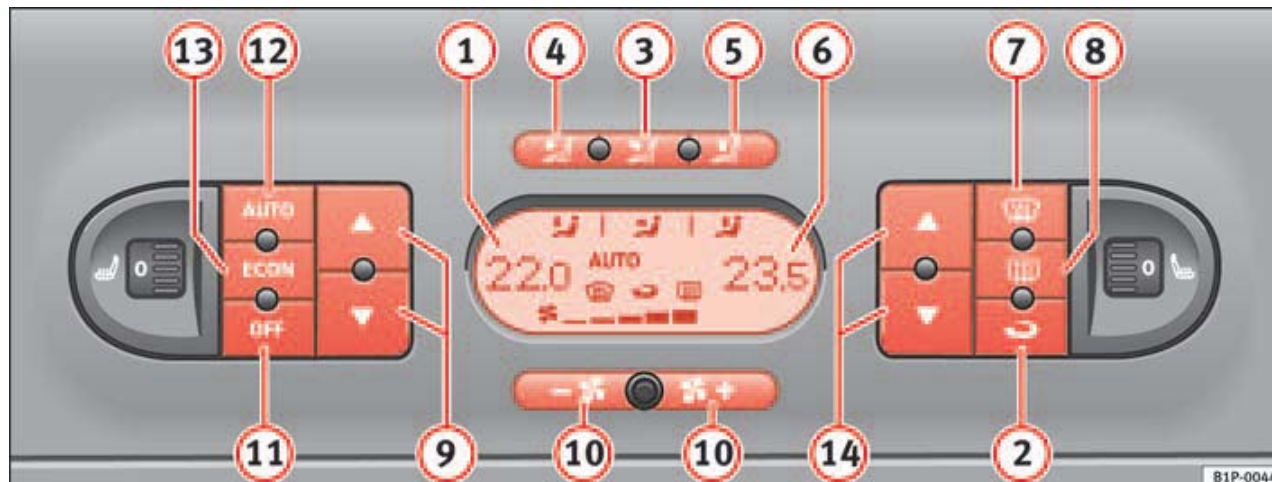

Fig. 111 On the dash panel: 2C Climatronic controls
- To enter manual mode, press one of the buttons ⇒ fig. 111 ③ to
⑤, **ECON** or press the airflow control ⑩. The symbol **AUTO** will disappear from the display. ▶
- Press the button  ⇒ page 147, fig. 111  to switch air recirculation mode on or off. It is switched on if the following symbol appears in the display .